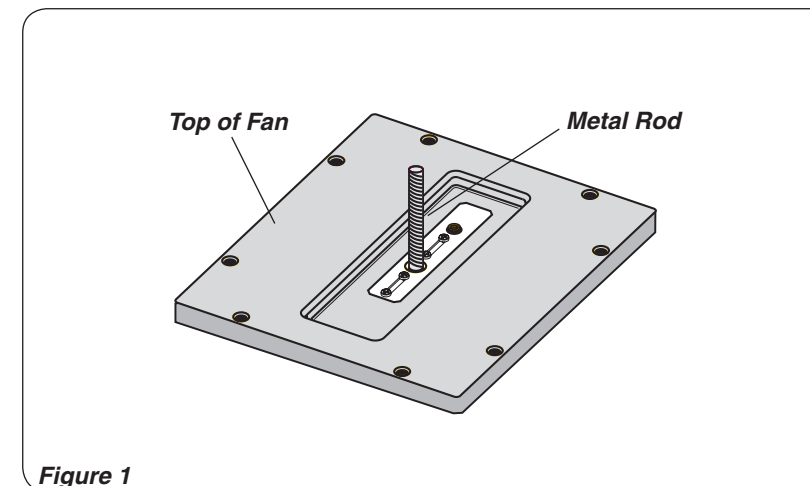

Figure 1
ASSEMBLY (Figures 1 through 4) NO TOOLS REQUIRED
3. Thread **Metal Rod** into hole in top of Fan by hand. The Metal Rod is securely in place when you are unable to screw it any further. (Figure 1)